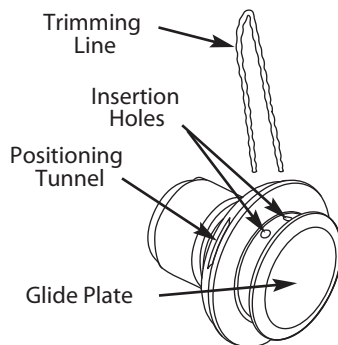

Fig. 23
NOTE: Before inserting new line into the holes in the cutting head, identify the proper holes by following the directions on the glide plate (Fig. 23). Do not attempt to remove the cutting head from the unit when replacing line.
1. Insert both ends of your line into the insertion holes in the side of the cutting head (Fig. 23).